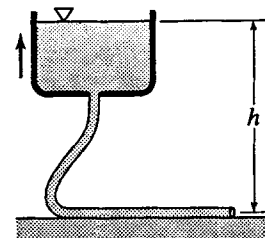

Figure P12.9
- 12.10 Attached to the tank in Fig. P12.9 is a flexible 40-mm-diameter hose ($f = 0.024$) 65 m long. The tank is hoisted in such a manner that $h = 10 + 0.5t$, where h is the head in meters and t is the time in seconds. (a) Find as accurately as you can the flow rate at $t = 10$ s. (b) Suppose h were decreasing at the same rate. What would be the flow rate when $h = 15$ m?